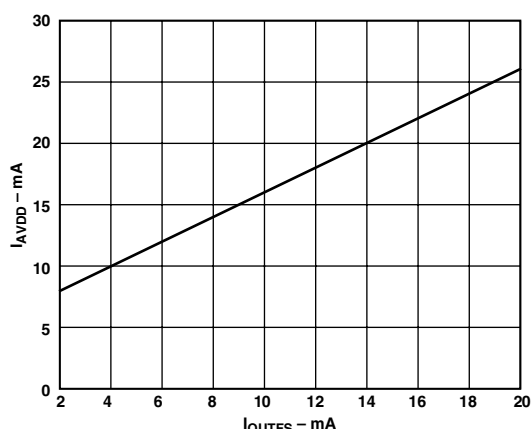

Figure 47. I_{AVDD} vs. I_{OUTFS}
The power dissipation, P_D , of the AD9760 is dependent on several factors that include: (1) $AVDD$ and $DVDD$, the power supply voltages; (2) I_{OUTFS} , the full-scale current output; (3) f_{CLOCK} , the update rate; (4) and the reconstructed digital input waveform. The power dissipation is directly proportional to the analog supply current, I_{AVDD} , and the digital supply current, I_{DVDD} . I_{AVDD} is directly proportional to I_{OUTFS} as shown in Figure 47 and is insensitive to f_{CLOCK} .